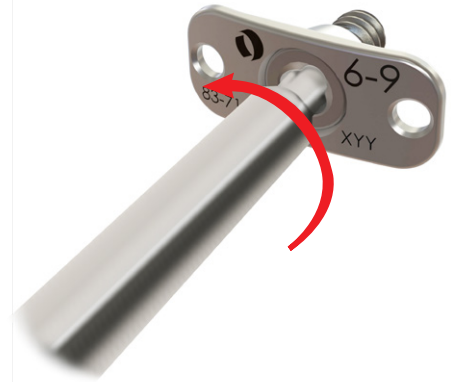

Fig. 14
1. Attach the Cover Plate Driver to the Cover Plate Screw and turn counterclockwise (**Fig. 14**).